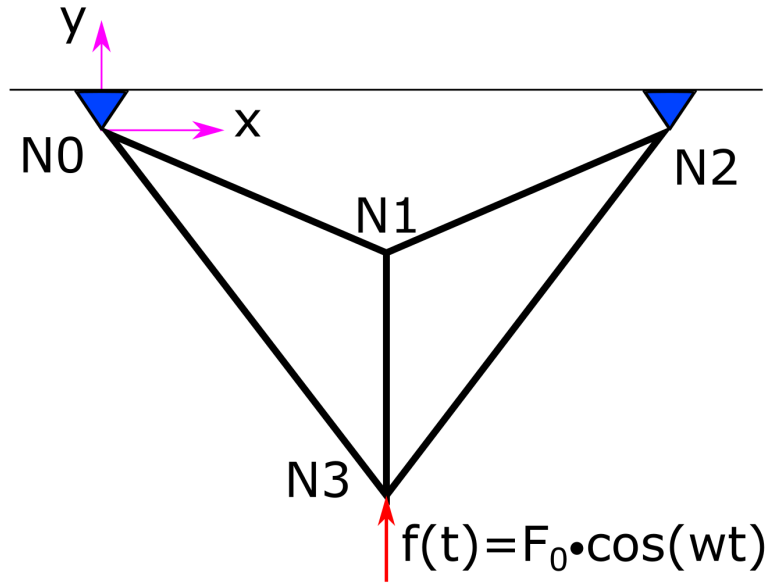

Figure 9: The structure under consideration for Question 4. The dimensions of the nodes are given in the notebook.
Consider the following truss structure in Figure 9:
- (a) Perform a modal analysis and use this to determine which of the following excitation frequencies are expected to result in largest displacement amplification when applying the force in Figure 9: [4 marks]: